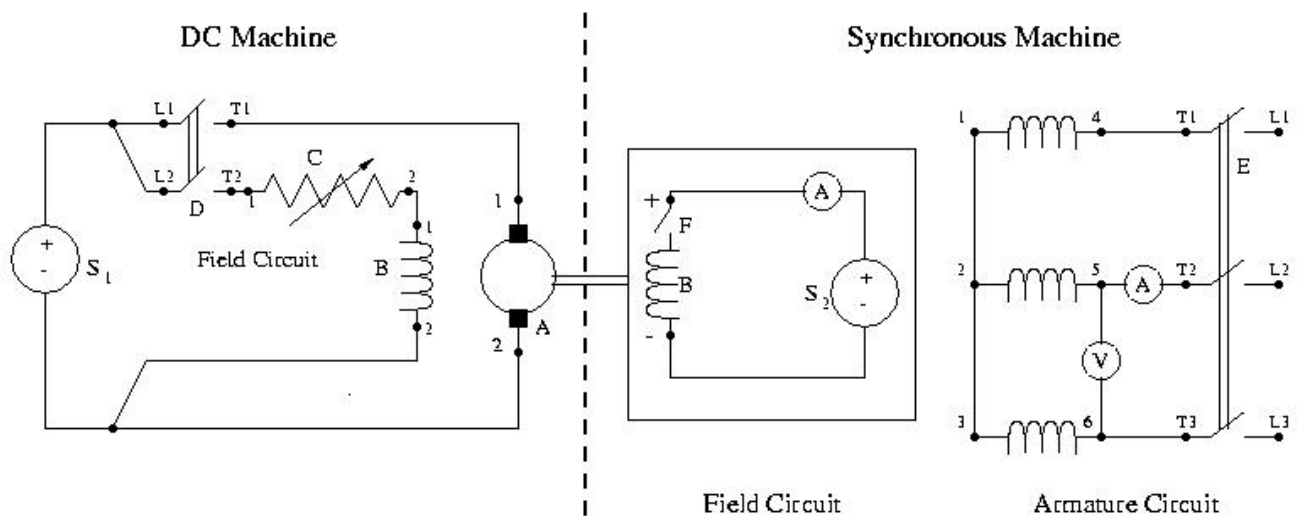

Figure 1
- 1) Connect the synchronous machine to operate as a 208 V (line-to-line), 3-phase, Y-connected synchronous generator as shown in Figure 1.
- 2) Connect the DC machine to operate as a shunt motor as shown in Fig. 1.
- 3) Adjust the rheostat (C) of the DC motor to be at its maximum value (i.e., turn it **counterclockwise**). Set switch **D** to the **OFF** position. Set switch **E** to the **OFF** position, set **F** to the '**Ind. Start**' position (left).
- 5) Start the DC motor by switching '**D**' to the **on** position. Gradually increase the S₁ voltage, eventually reaching 125V (DC). Then adjust the speed to 1800 rpm by varying the rheostat 'C'. Keep the speed constant until step 8.